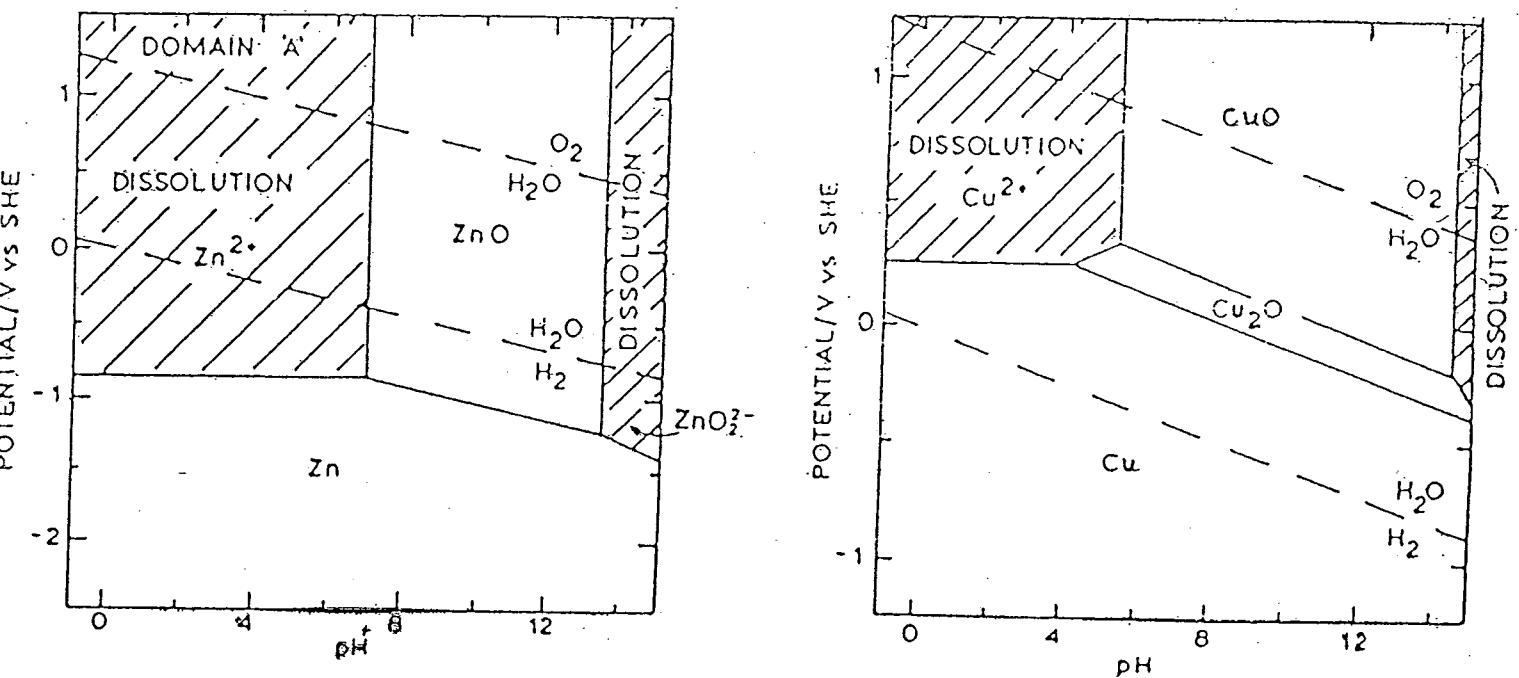

Figure 5.1:  $E_h$ -pH diagrams for (a) Zinc-water system (b) Copper-water system at 25°C
- [b] The thermodynamics of leaching reactions are best illustrated by the use of  $E_h$ -pH diagrams. Figure 5.1 (a) and (b) show the  $E_h$ -pH diagram for the zinc-water and copper-water systems respectively (for a metal ion activity of  $10^{-3}$  mol/kg) at 25°C with the domain of thermodynamic stability of water clearly defined.